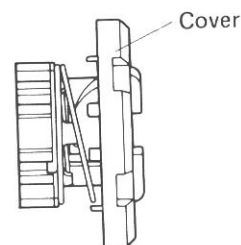

Fig. 8-9
2. Clutch is lifted to the cover side, if not (shown in Fig. 8-9) it may cause malfunction.